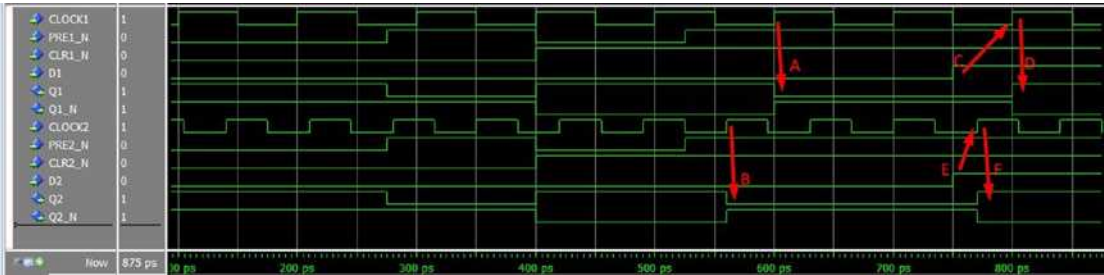

Figure 10-3. 7474 FPGA Timing diagram
In Figure 10-3, the two flip-flops in the d_flipflop_7474_example are driven by the same input except CLOCK1 and CLOCK2 are different. The red arrow (A) in the figure shows that Q1 and Q1_N change on the rising edge of CLOCK1. Q2 and Q2_N change on the rising edge of CLOCK2 (red arrow B). This dual flip-flop design shows that sequential statements ONLY execute when the IF condition is true (which is the clock input). The Q output also depends on the D input. Q1 and Q1_N follow the D1 input on the rising edge of CLOCK1 (red arrows C and D). Q2 and Q2_N follow the D2 input on the rising edge of CLOCK2 (red arrows E and F).